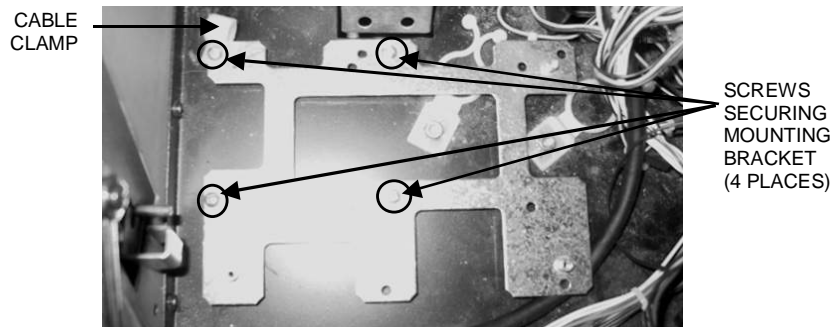

FIGURE 14 - NEW I/O MOUNTING BRACKET IN ELITE GAME
5. Install the provided metal mounting bracket in the game where the original I/O board was mounted and secure it using the 4 screws removed in step 4 (one screw will also secure a provided cable clamp). See Figure 14.